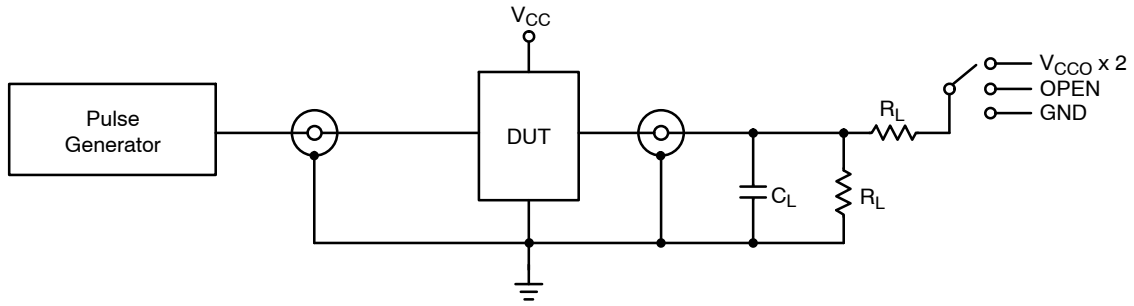

**Figure 2. AC (Propagation Delay) Test Circuit**
1. Propagation delays defined per Figure 2.